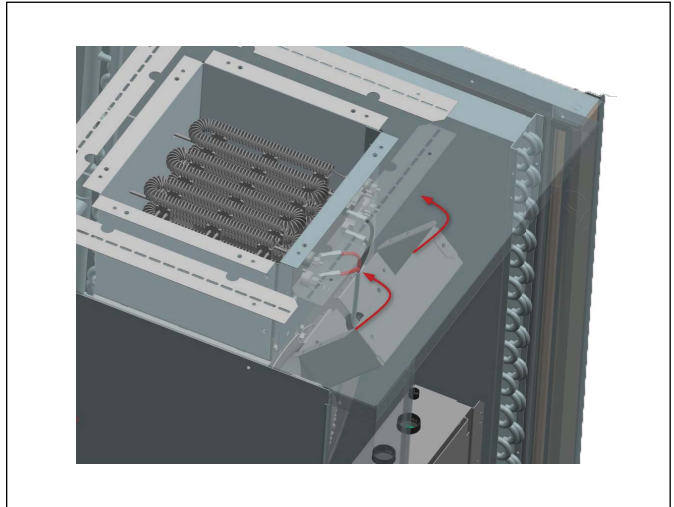

Figure 26
- After the heating elements are installed, move the element cover into position (figure 26).